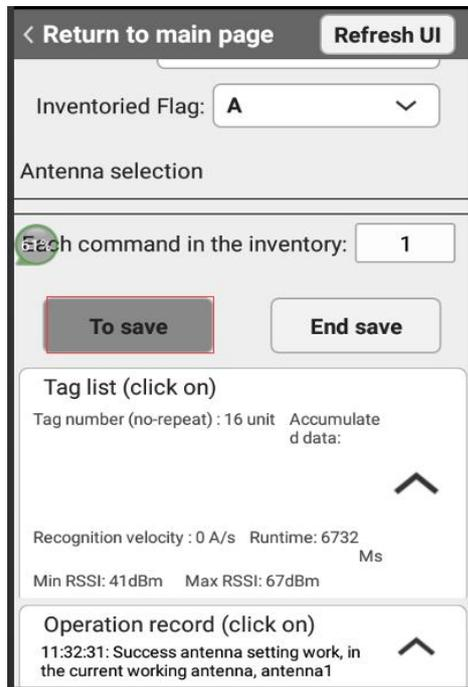

Figure 3.0
1.2 Click the icon button ‘To save’ to start read RFID tags as figure 3.0.
1.3 Click the icon button ‘End save’ to stop read RFID tags as figure 3.0.